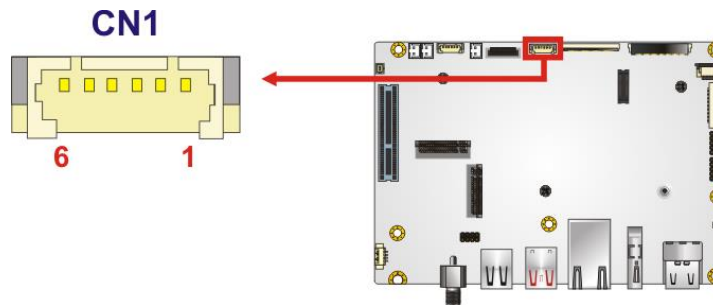

Figure 3-14: LVDS Touch Panel Connector Location
- CN Location:** See **Figure 3-14**